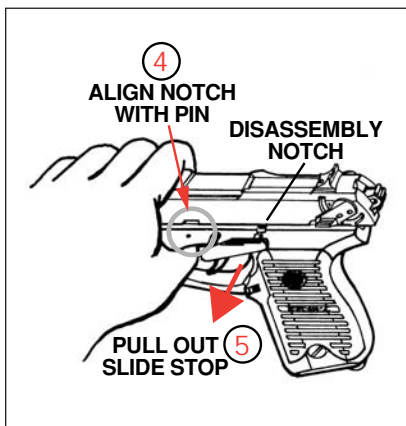
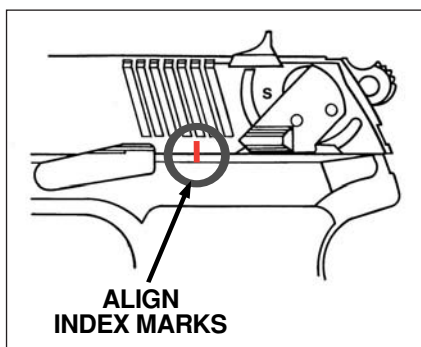

FIGURE 5A
FIGURE 5B
4. Remove fingers from ejection port. Grasp slide tightly. Now press down on slide stop and allow slide to move slowly forward until the slide stop spring retainer pin is aligned with the front edge of the slide stop notch. Press in on right-hand end of slide stop and pull slide stop out of frame to the left until it locks in its withdrawn position. (See Figure 5A, above.) Do not attempt to pull it completely out of the frame. For the P94 & P944 pistols, press down on the slide stop and allow the slide to move slowly forward until the vertical index marks on the left side of the frame are aligned. (See Figure 5B, above.)